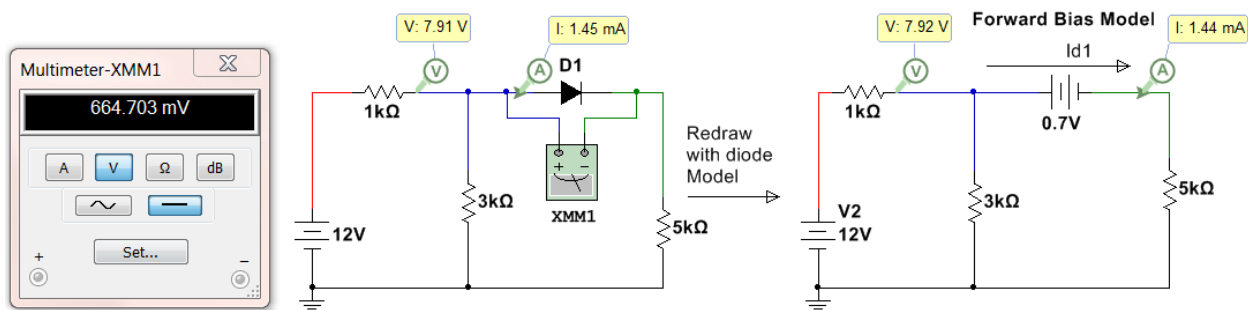

Figure 6.6: Circuit for Example 6.3
Step 2) The circuit on the right side of Figure 6.6 shows the forward bias model replacing the diode. **The node where the anode was connected is connected to the + side of the battery.** 0.7 V is used for the battery voltage because the problem stated it is a silicone diode. Next, calculate the current,  $I_{D1}$ . The mesh matrix method used in the DC Circuits eBook will be used.
- Solving this matrix yields  $I2 = I_{D1} = \underline{1.44 \text{ mA}}$  (This is verified in Multisim in the right circuit of Figure 6.6)
- **Note:** The actual diode voltage is shown in Multimeter XMM1 to be 664.703 mV. The 0.7 V diode drop assumption yielded a slightly different result than the actual values (shown in the left circuit in Figure 6.6).